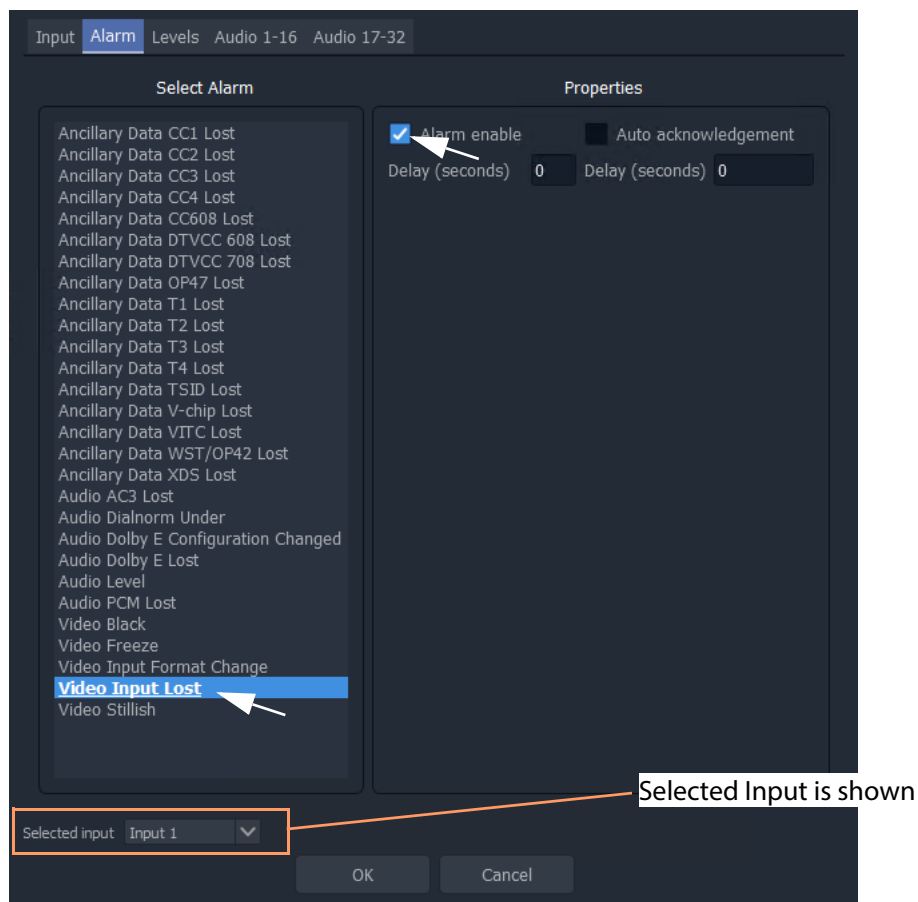

Fig. 7-8: Video Input Lost Alarm Enabled
- 3 In the properties section, select **Alarm Enable**. See Figure 7-8.